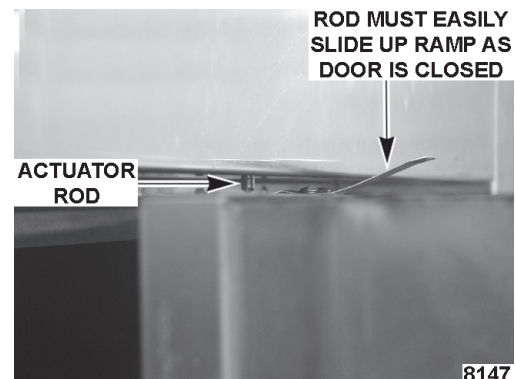

Fig. 8
- A. When door switch actuator rod is in the down position (door open), the rod should extend 3/8" to 7/16" from the underside of the header and easily slide up ramp as door is closed (Fig. 8). Slide ramp should be positioned as shown below. If not, re-form ramp as necessary.